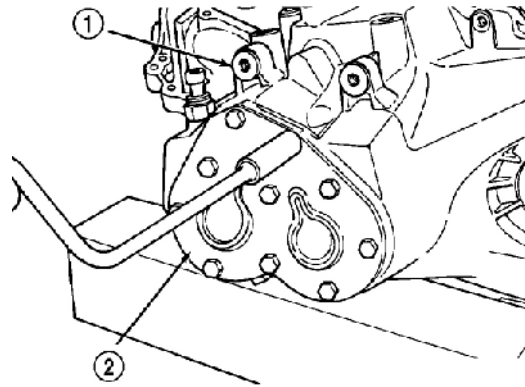

Figure 3-69 Transaxle end plate
(10) Apply sealant Mopar RTV round the end plate and bolt hole. The end plate is mounted on the gear box, screw down the end plate bolt at tightening torque 29Nm (21 ft. lbs.) (Figure 3-69).